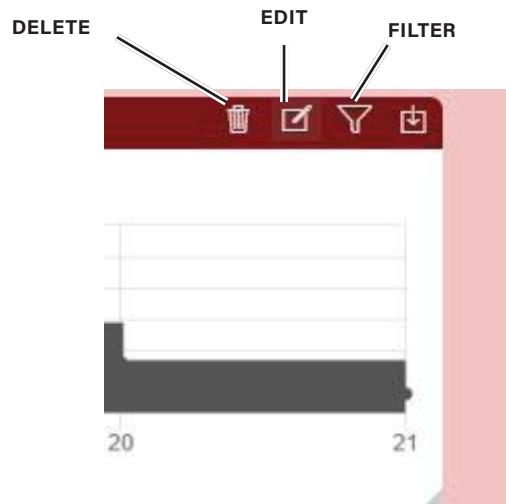

Figure 5-14. Changing Graph Data Point Rate
- A. Mouse over the upper right corner of the temperature trend graph window. Shortcuts will appear, similar to figure 5-14. Click on the edit symbol.